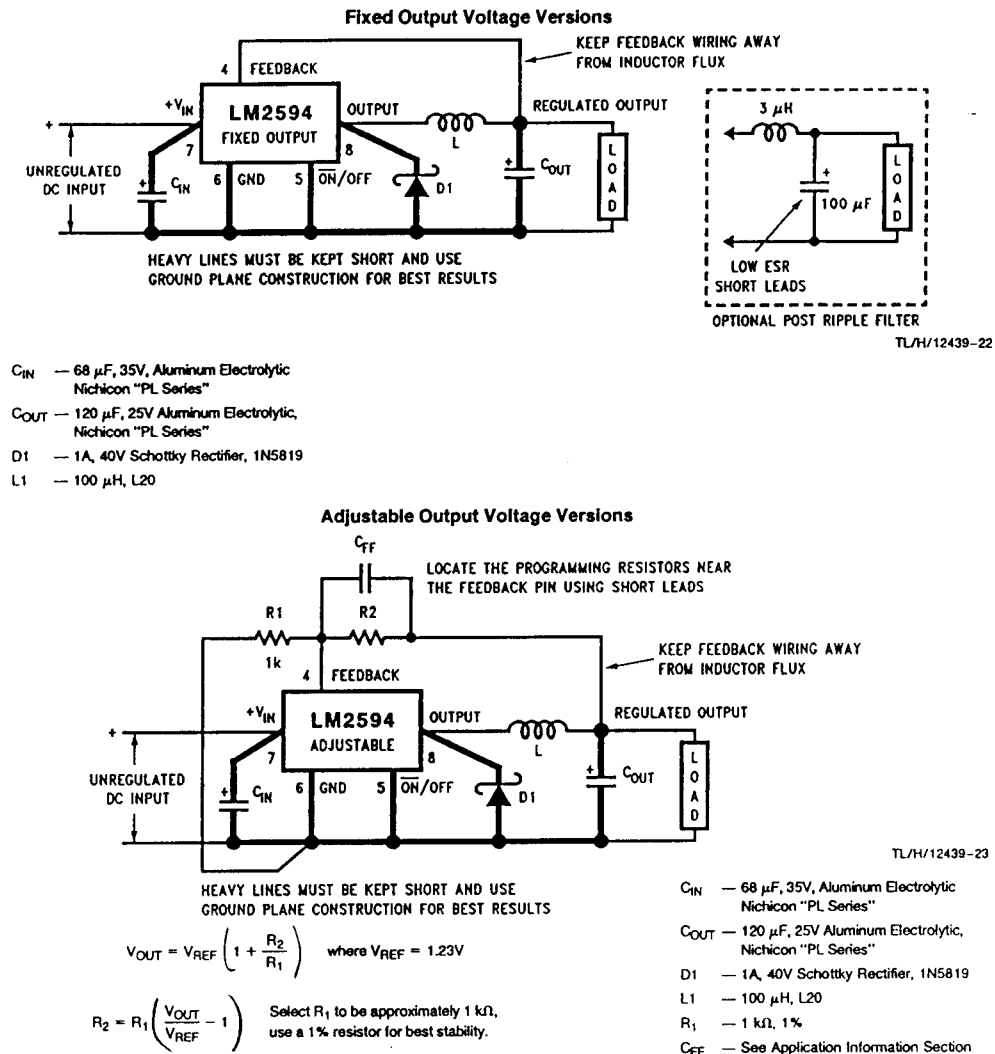

FIGURE 2. Standard Test Circuits and Layout Guides
SYSTEM PARAMETERS (Note 5) Test Circuit Figure 2
SYSTEM PARAMETERS (Note 5) Test Circuit *Figure 2*
ON/OFF CONTROL Test Circuit *Figure 2*
Note 5: External components such as the catch diode, inductor, input and output capacitors, and voltage programming resistors can affect switching regulator system performance. When the LM2594 is used as shown in the Figure 2 test circuit, system performance will be as shown in system parameters section of Electrical Characteristics.
Typical Performance Characteristics (Circuit of Figure 2)
Typical Performance Characteristics (Circuit of Figure 2) (Continued)
1. Programming Output Voltage (Selecting R_1 and R_2 , as shown in Figure 2)